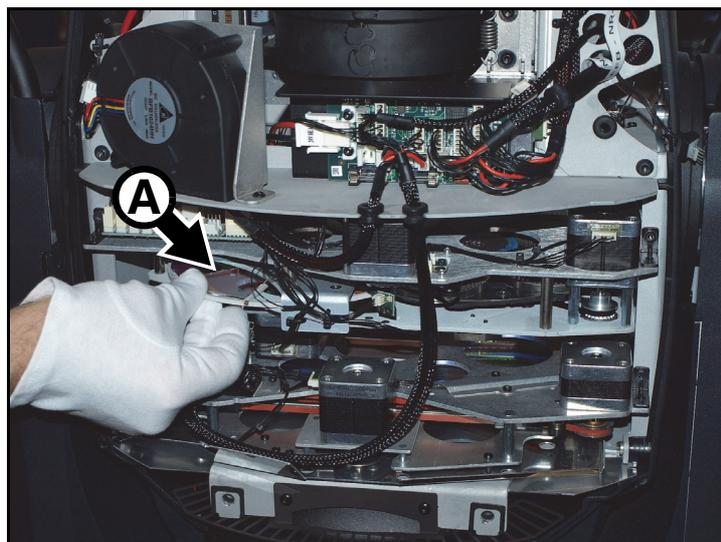

Figure 21: Color filter removal
4. See Figure 21. You do not need to remove the effects module to replace color filters. Rotate the color wheel until the filter that you want to change **A** is accessible. Lift the outer edge of the filter away from the color wheel slightly to release it, then pull it free of its retention spring and out of the color wheel.